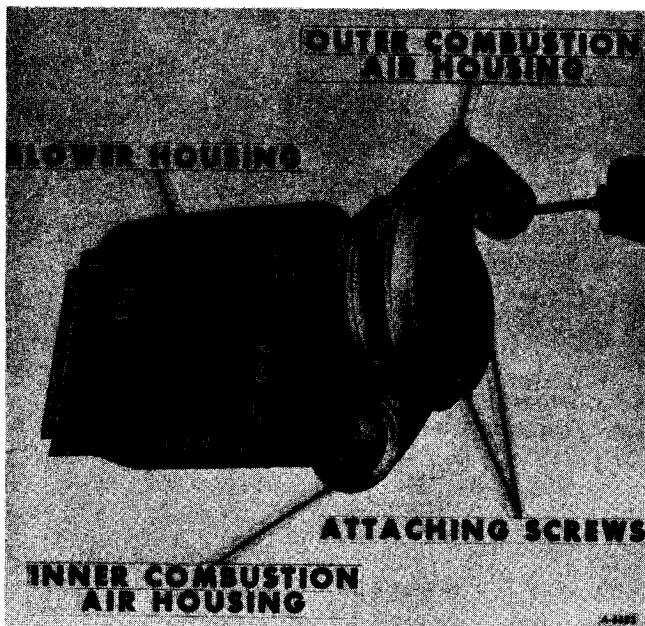
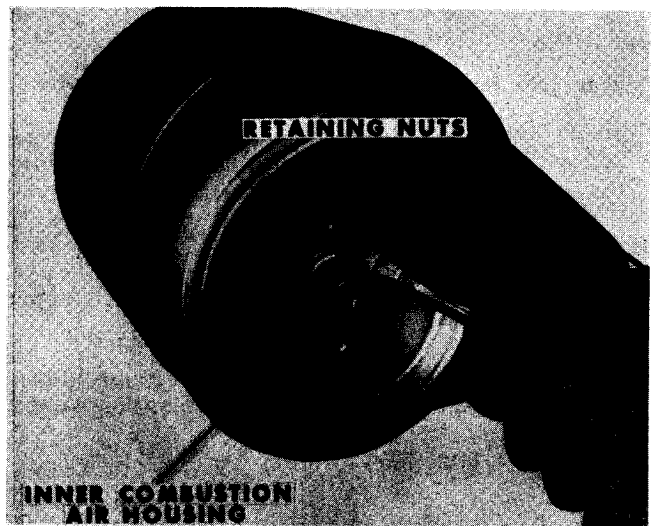

Figure 24 – Removing Outer Combustion Air Housing
Figure 26 – Removing Inner Combustion Air Housing
4. Remove outer combustion air housing attaching screws (Figure 24). Remove housing and metal plate located between inner and outer housing.
6. Remove two retaining nuts holding inner combustion air housing to blower motor (Figure 26). Remove housing.
4. Install the inner combustion air housing to the blower motor (Figure 26). Be sure inner housing is aligned as shown in Figure 24 with blower housing.
6. Position metal plate between inner and outer combustion air housings. Install outer combustion air housing (Figure 24).